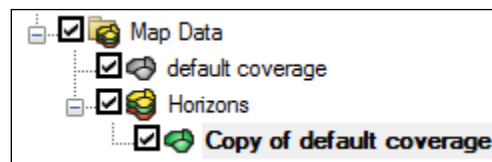

Figure 4 New coverage after moving it
2. Drag the new coverage on top of the "Horizons" conceptual model. Click **Yes** to dismiss the warning regarding moving the coverage. The new coverage will now be under the "Horizons" conceptual model (Figure 4).